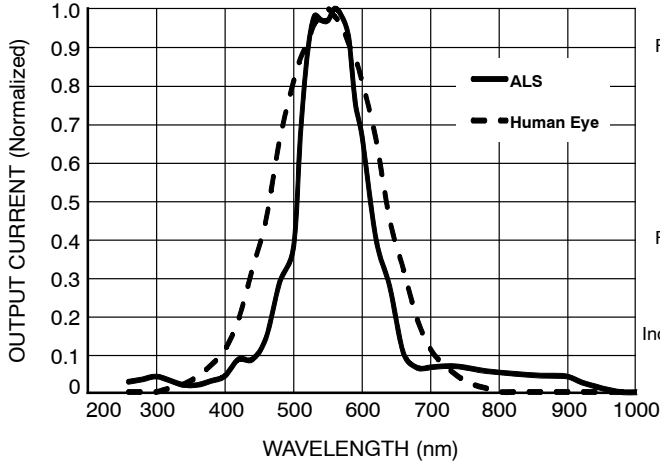

Figure 4. ALS Spectral Response (Normalized)
- Refer to Figure 4 for more information on spectral response.
The ambient light sensor contained in the NOA3301 employs a second photo diode with its own proprietary photopic filter limiting extraneous photons, and thus performing as a band pass filter on the incident wave front. The filter only transmits photons in the visible spectrum which are primarily detected by the human eye. The photo response of this sensor is as shown in Figure 4.